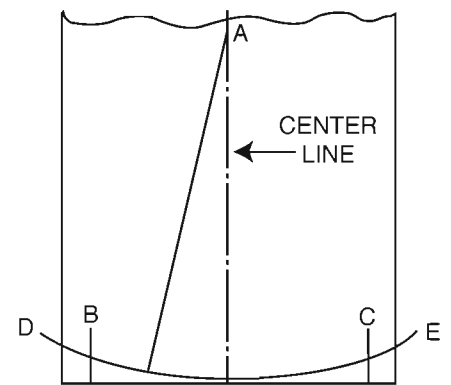

Fig.3
2. At a distance from the belt end equal to about three times the belt width, drive an awl or small nail into the belt on the center line (Point A, Fig. 3).